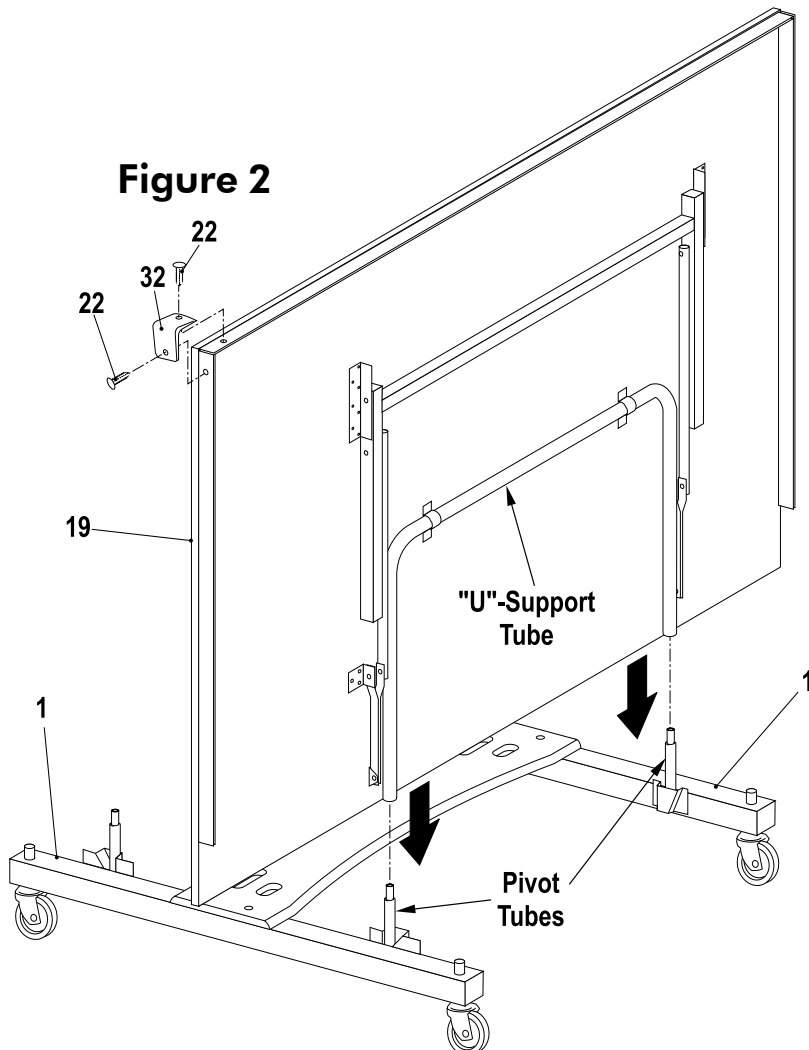

Figure 2
2. Attach table top (#19) to table base that you just assembled, as shown in Figure 2. With at least one adult on each side of table top (#19), lift top and align ends of "U"-support tube with top of pivot tubes on caster rails (#1). Slide tubes together.